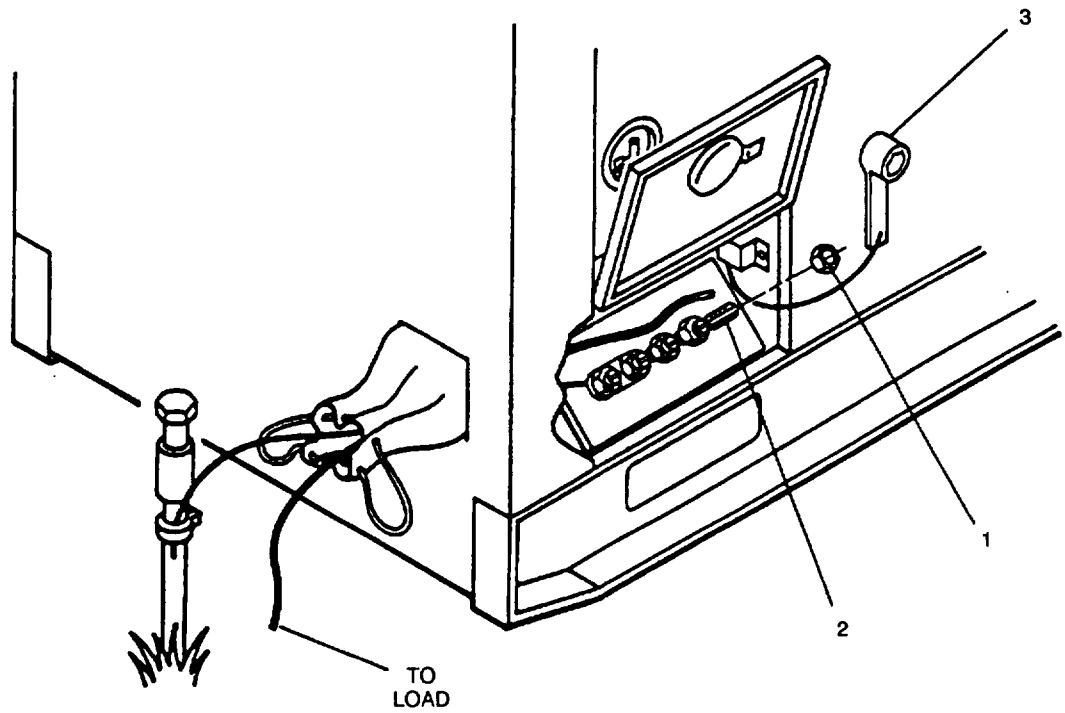

Figure 2-4. Installation of Load Cables
- d. Using terminal nut wrench (3, Figure 2-4) loosen terminal nuts (1) on terminals (2) selected in Step b.
- e. Insert ends of load cables through load cable entrance box. Insert ends of cables into slots of load terminal studs (2).
- f. Tighten load terminal nuts (1).
- g. Secure wrench (3) in bracket inside load terminal board door, and close door.